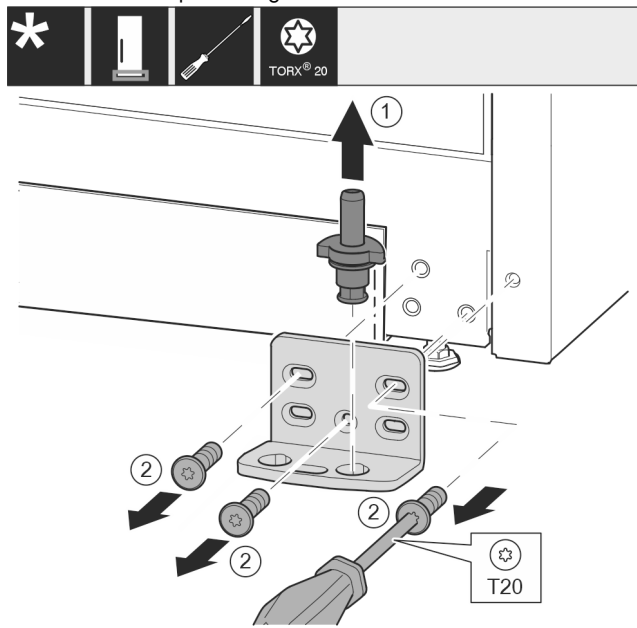

Fig. 18 \*
- ▶ Pull the bearing bolt Fig. 18 (1) out upwards completely.\*
- ▶ Use screwdriver to unscrew the screws Fig. 18 (2) and remove the swap bearing block.\*